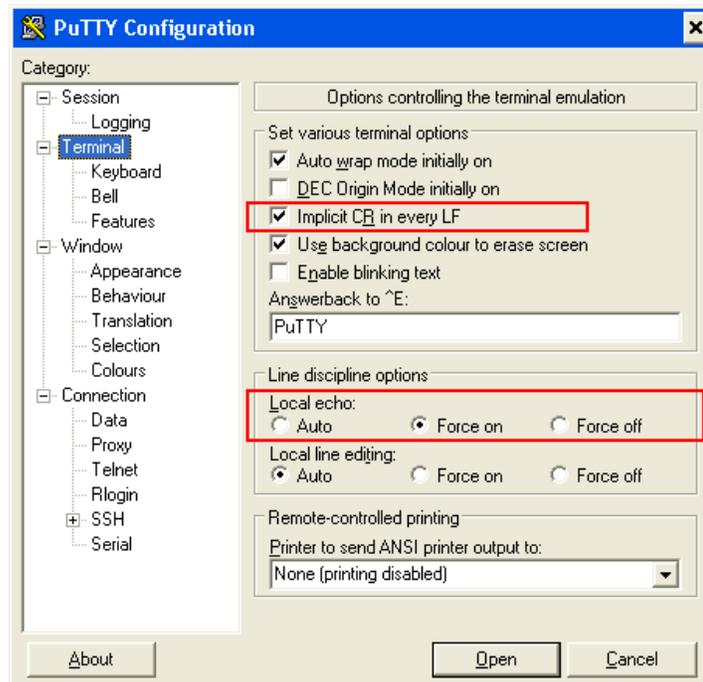

Figure 15: Terminal Configuration
3. Select **Category** > **Terminal** in the PuTTY Configuration window. The terminal emulation configuration window is displayed. Select **Force on** radio button under Local echo menu and Select the check box labeled **Implicit CR in every LF** under Set various terminal options menu (Figure 15).